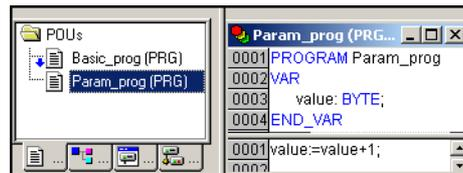

Figure 33: Programmed element for event controlled task
- ▶ You can now enter a program. The program example Param_prog (Figure 33) increments the variable “value” by the value 1. The Param_prog is processed if the variable a = TRUE.